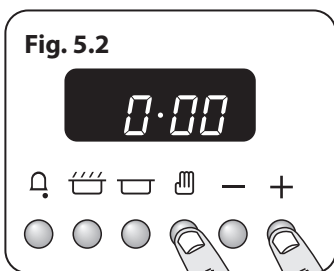

Fig. 5.2
- Press and hold the [🔔] button. Now press the [+] or [-] buttons to increase or decrease the time (Fig. 5.2). Holding the [+] or [-] buttons for more than 2 seconds will advance / decrease the set time quickly. Release the buttons to set the time of day.